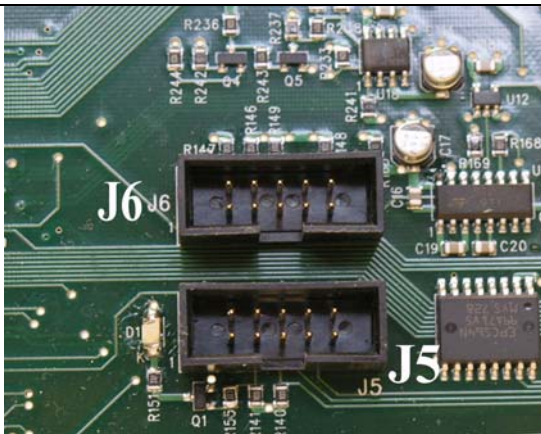

Figure 7: J6 and J5 connectors
2.1.k: UART + JTAG port (figure 7)
2.1.l: In-System Programming of Serial Configuration Device (figure 7)